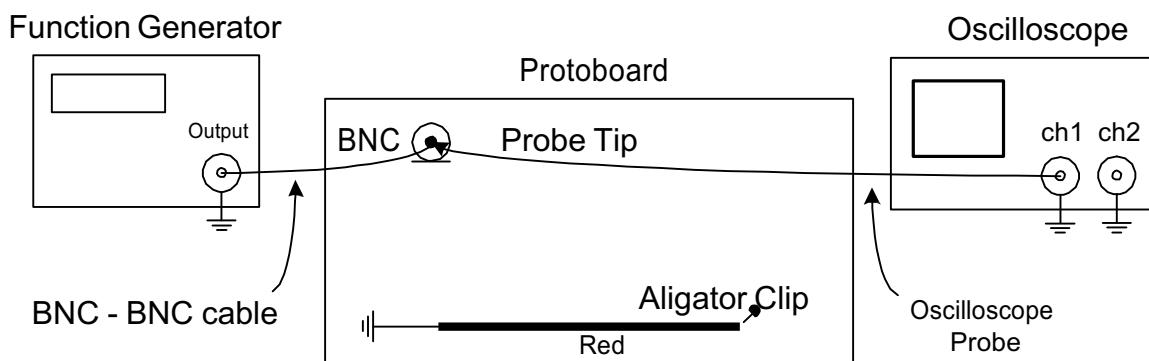

Figure 5.1
- Step 2:** Connect the output voltage of the function generator to CH1 of the oscilloscope (using the protoboard) as shown in Figure 5.1.